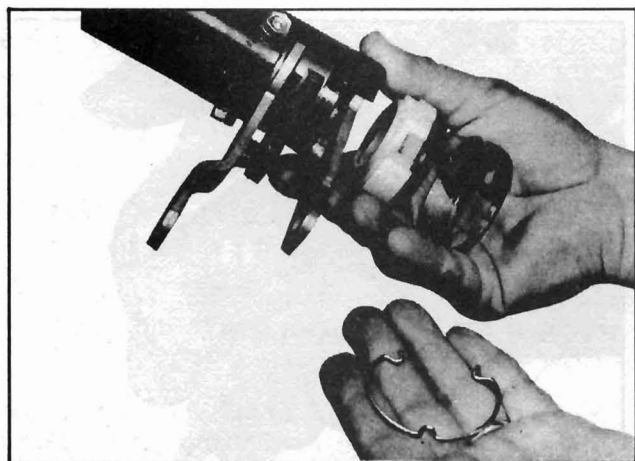

Fig. 9-26 Removing Bearing Adapter, Bearing and FIRST/REVERSE Lever - Manual Transmission
5. Remove bearing adapter, bearing and FIRST/REVERSE lever (Fig. 9-26).